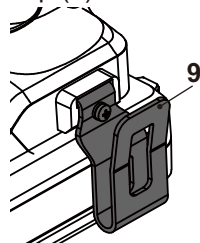

Fig. 18
1. Set the forward / reverse rotation control (6) in the middle position (lock) (Fig. 18).
2. Attach the belt clip (9) to the slot and fix it with screw (Fig. 18).